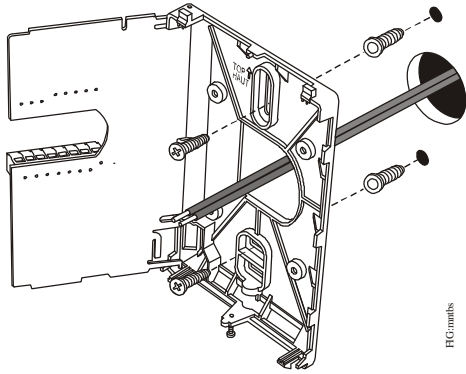

Figure 3: Securing the Thermostat Controller Mounting Base to the Wall
7. Secure the mounting base to the wall surface using two mounting screws as illustrated in Figure 3.